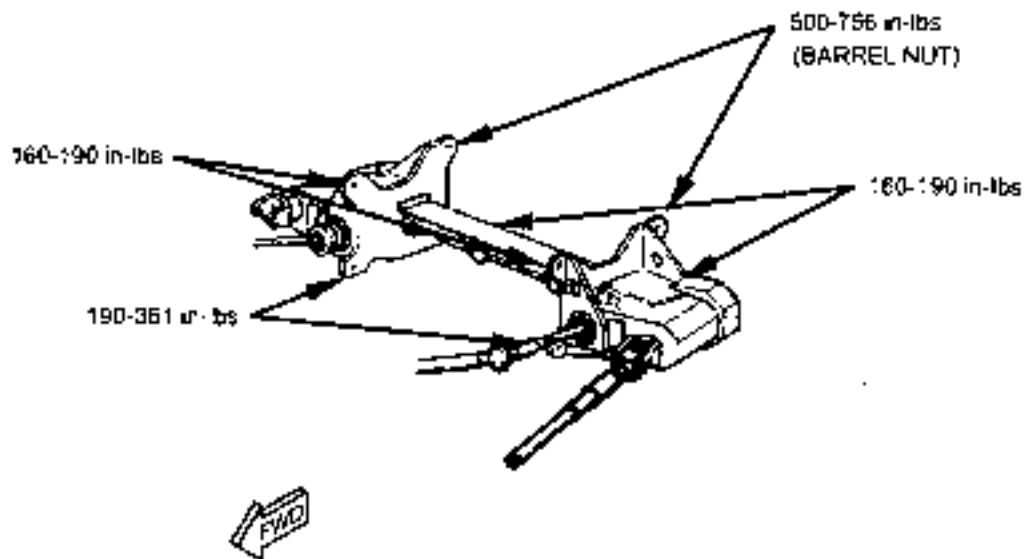

Fig. 4-47A Torque value for main landing gear gearbox attachment bolt
ADD : Paragraph 4.8 and Fig 4-47A as follows.
Inspect to ensure the torque is correct for all four (4) MLG Thrust Gearbox attachment bolts per the Figure 4-47A to preclude a loose bolt condition. If a bolt(s) is loose, replace the nut(s) and retorque to proper value as required.